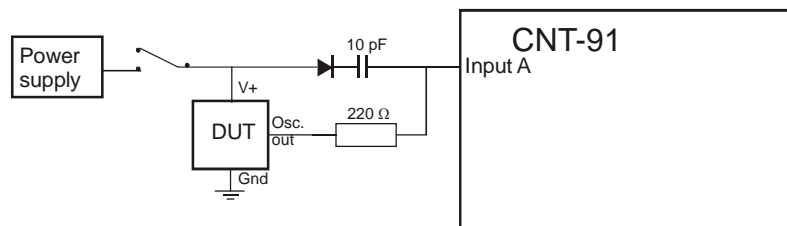

Figure 2. Set-up for Oscillator start-up measurements
1. Connect the oscillator under test (DUT) to the CNT-91 and supply voltage as shown in figure 2